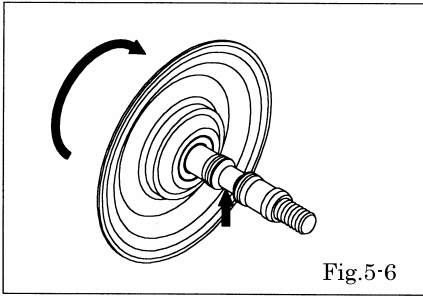

Fig.5-6
- * Fix the central part of the center rod by hand or with the vice, and turn it until the diaphragm is removed. [Fig.5-6]